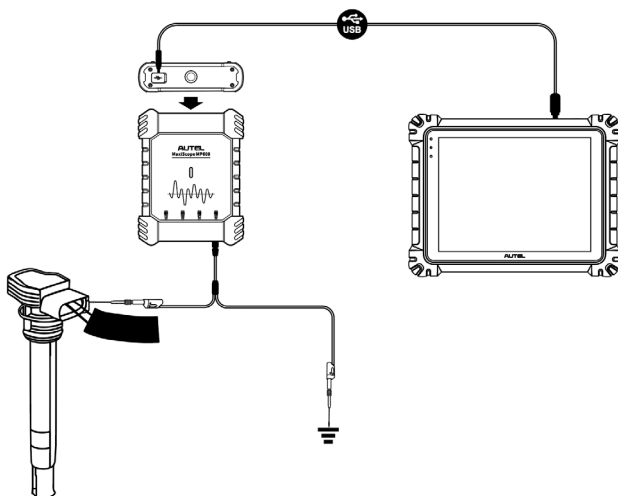

Figure 3-1 Connection Diagram Example
2. Insert the applicable test lead or probe terminal ends into the input channel(s) to complete the connection. (See Figure 3-1 Connection Diagram Example)